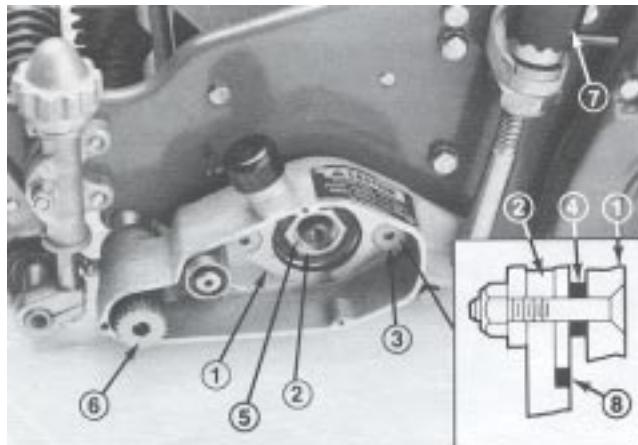

Figure 4
7. Slide one end of the grooming shaft assembly into the bearing support in the groomer housing assembly (Fig. 4). Mount the driven pulley (left hand thread) to the end of the groomer shaft and torque to 29 to 35 ft-lb, using a 3/8" allen socket on a torque wrench (Fig. 4).
B. Remove bearing locknut from reel shaft (Fig. 4). Secure the reel from turning with a wood block.